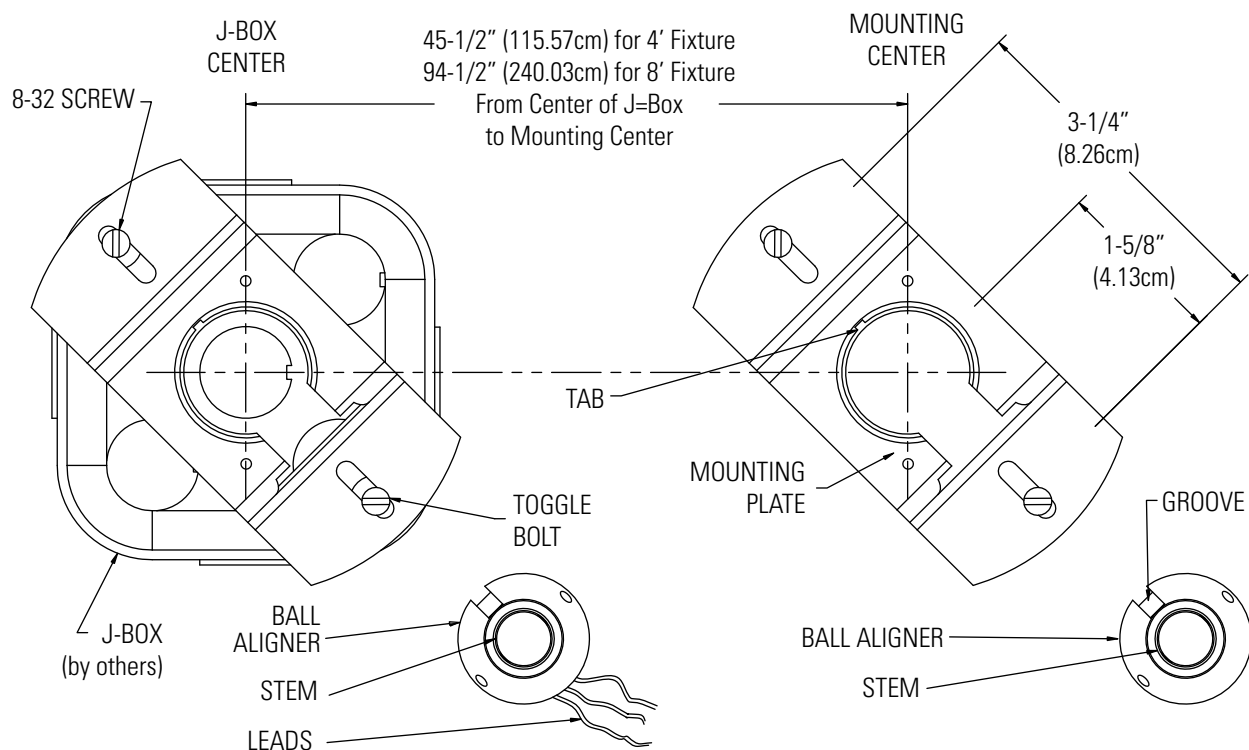
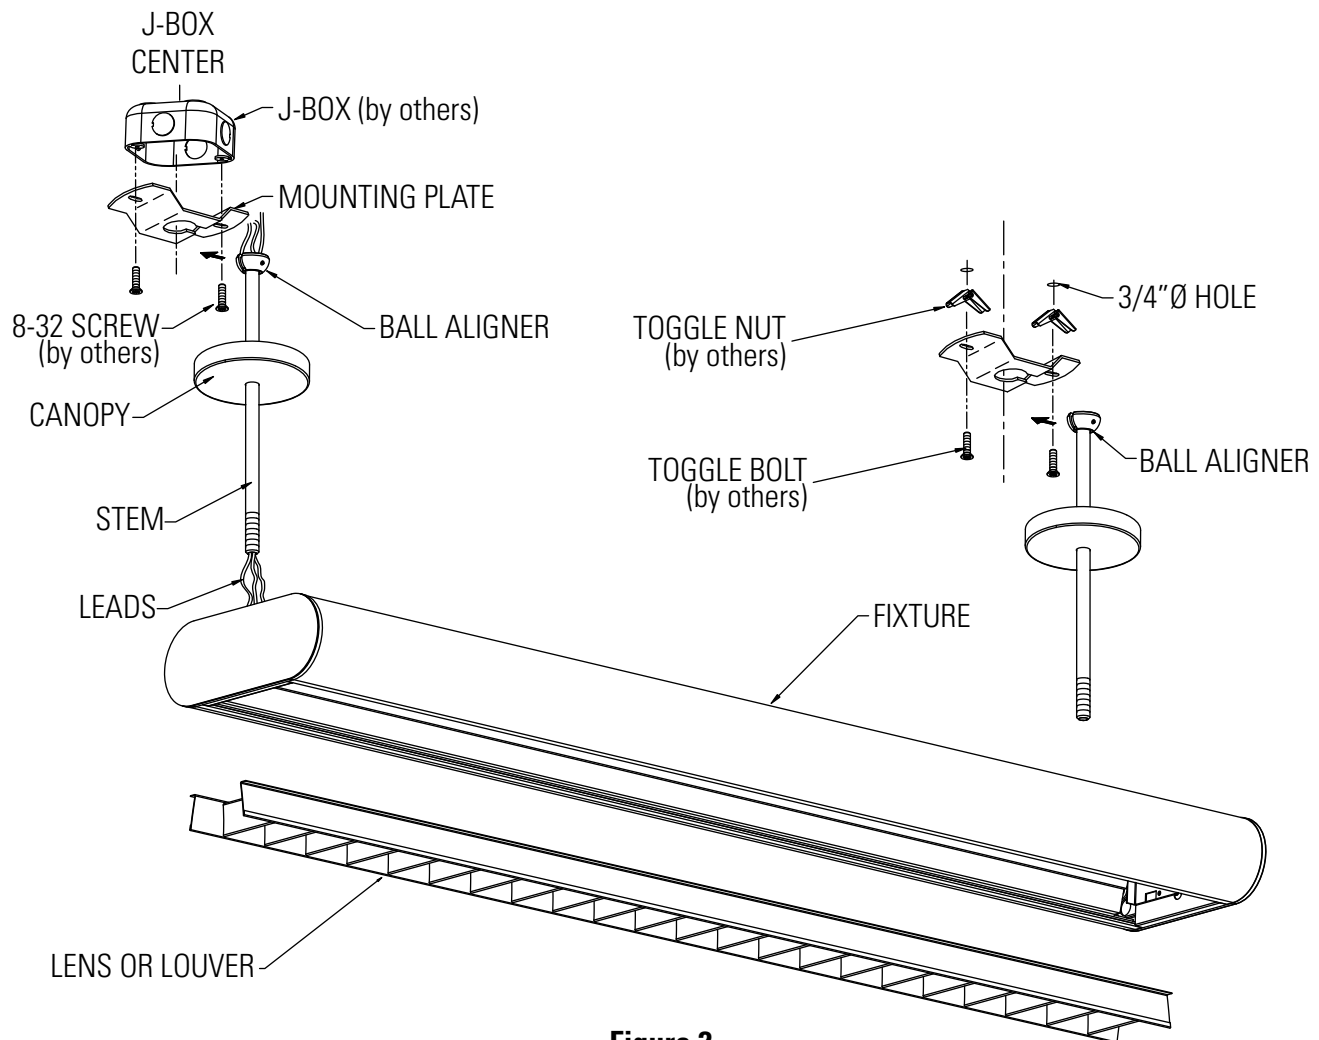

Figure 1
Figure 2
Mark required distance from center of J-BOX to MOUNTING CENTER as shown. (Fig.1) Drill two(2) 3/4"Ø holes at same angle as shown as the two(2) 8-32 threaded holes on J-BOX. (Fig.1)
Fasten to J-BOX with two(2) 8-32x1" SCREWS. Secure MOUNTING PLATE at MOUNTING CENTER with two(2) 8-32 TOGGLE BOLTS (by others). (Fig. 2) IMPORTANT: Opening in MOUNTING PLATES must be Aligned in same direction. (Fig.1)
Simultaneously slip both STEMS into opening in MOUNTING PLATES. Rotate STEMS slightly to Align GROOVE on BALL ALIGNER with TAB on inside of MOUNTING PLATES. (Fig. 1) Make required electrical Connections per local codes. Raise CANOPY up over MOUNTING PLATE and secure with two(2) 6-32 SCREWS.